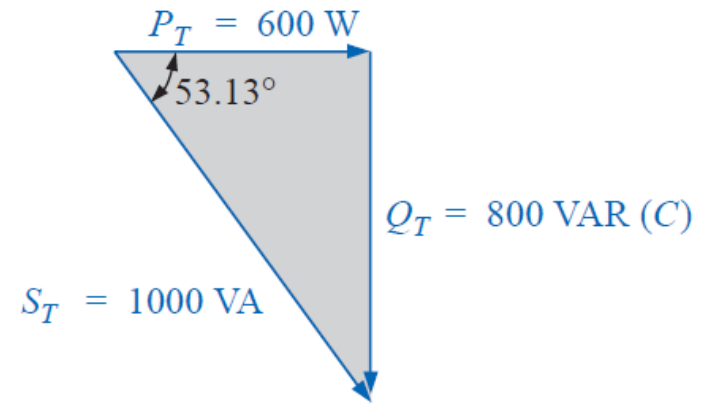

FIG. 19.20
b. The power triangle is as shown in Fig. 19.20.